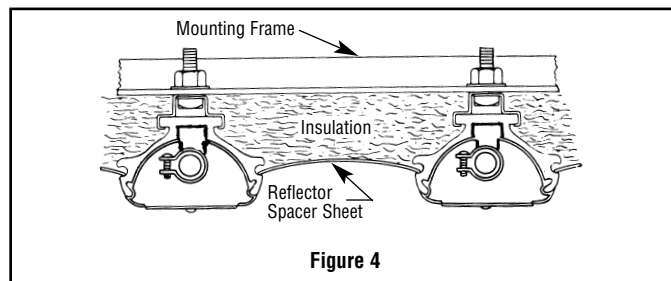

Figure 4
5. Reflector Spacer Sheets — Where heaters are not mounted side by side (see Fig. 4), reflector spacer sheets can be used between heaters. These reflector spacer sheets and companion reflectors consisting of an extruded aluminum housing with reflector sheet and mounting clamps are available. Check with local sales representative.
6. Insulation — Where unusually high work temperatures are encountered, it may be desirable to insulate backs of heaters with high-temperature fibrous insulation. A suggested method of accomplishing this is indicated in Fig. 4.